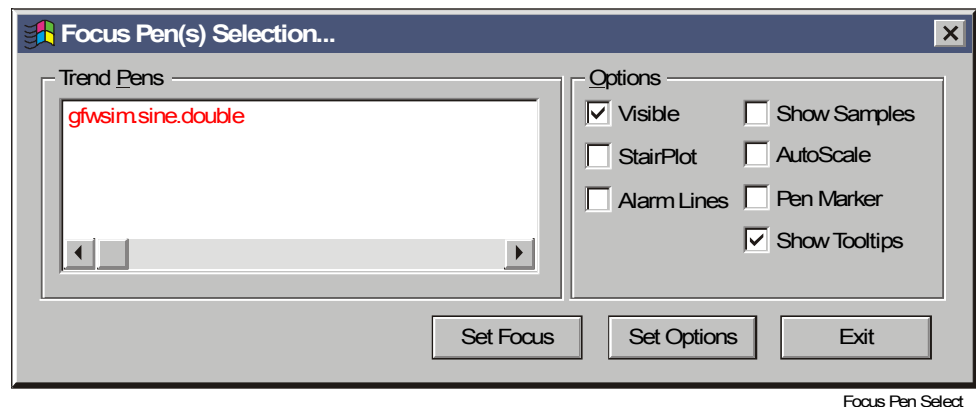

Figure 14-21: Focus Pen Selection Dialog Box
2. Click on the Focus Pen button . The Focus Pen(s) Selection dialog box appears (Figure 14-21).